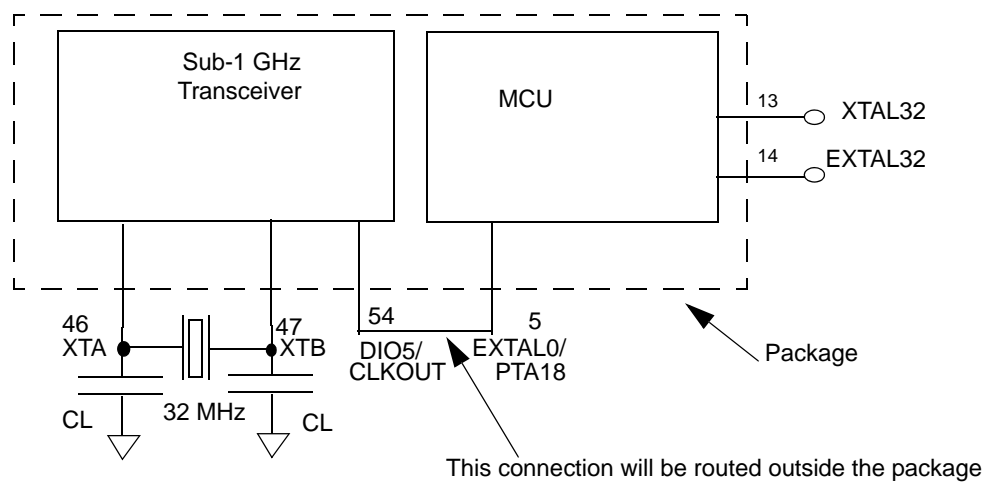
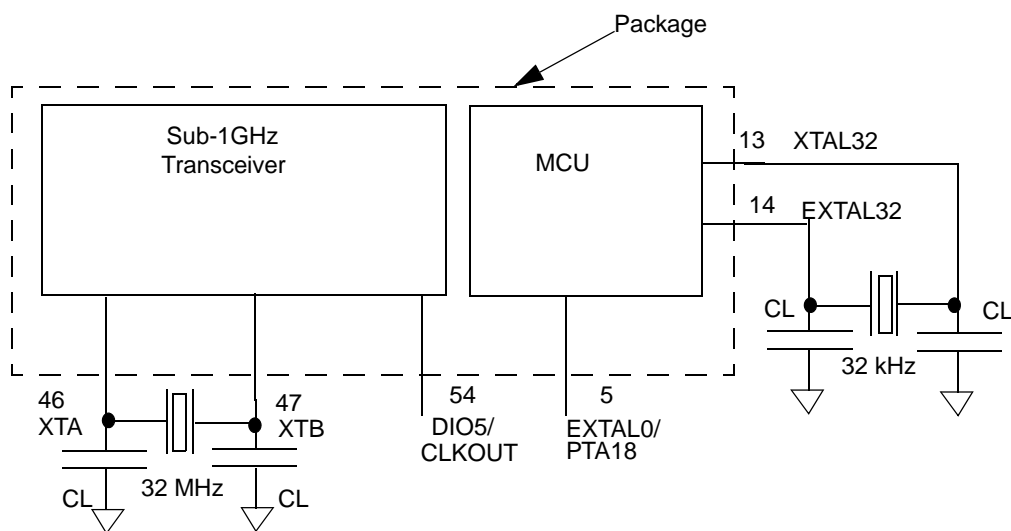

Figure 3. MKW01Z128 Single Crystal System Clock Connection
Figure 4. MKW01Z128 Two Crystal System Clock Connection
- Pins 46 & 47 are provided to input a 32 MHz crystal for the transceiver reference clock source (required) as shown in Figure 3.
- The transceiver can be programmed to provide a programmable frequency clock output (ClkOut Pin #54) that can be used as an external source to the CPU (see Figure 3 and Figure 4). As a result, a single crystal system clock solution is possible where the transceiver reference clock source can be divided by 2, 4, 8, 16 and 32.